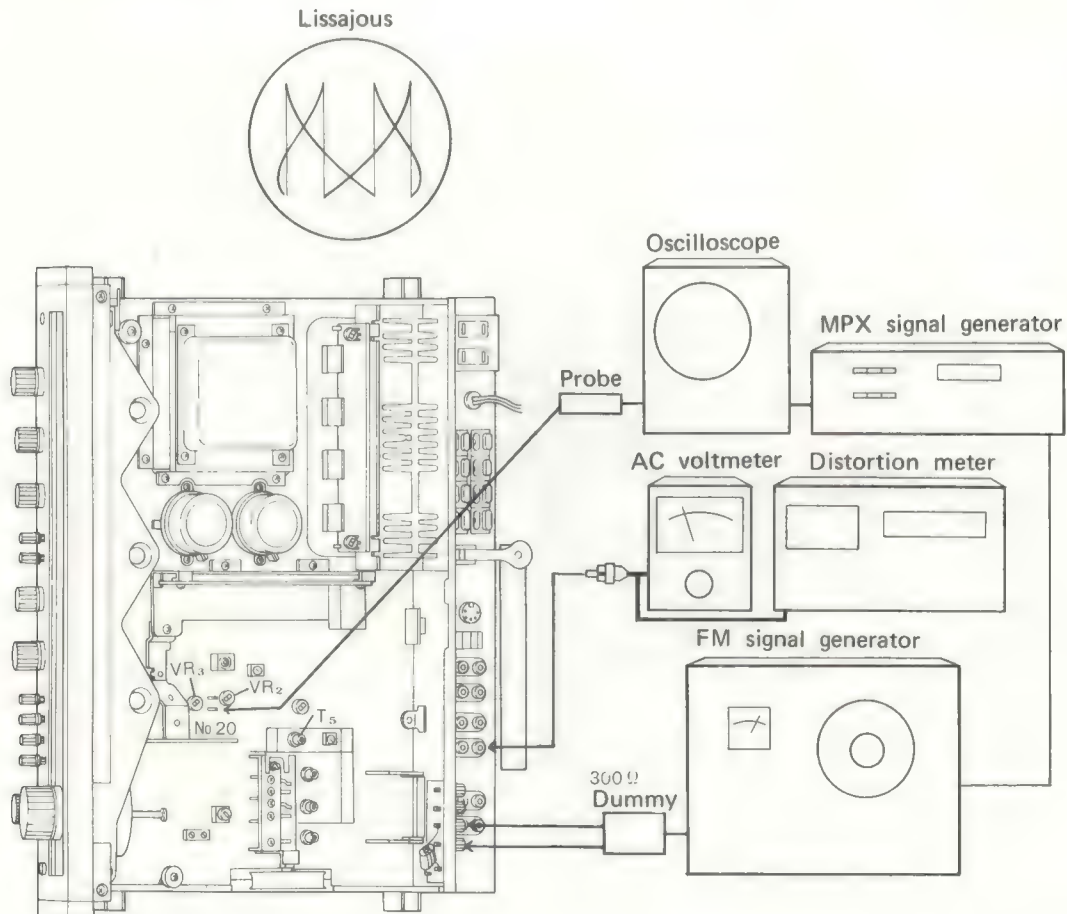

Fig. 16
1. Connect measuring equipment as shown in Fig. 16.
5. Adjust VR2 so that lissajous pattern displayed on oscilloscope becomes stationary (Fig. 16).